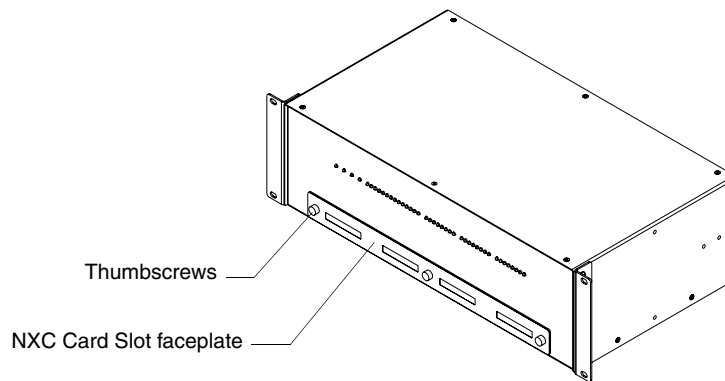

FIG. 18 NI-4000 front faceplate
2. Remove the three screws by turning them in a counter-clockwise direction and then remove the faceplate (FIG. 18).
3. Remove the faceplate from the front plate (FIG. 18 on page 29).